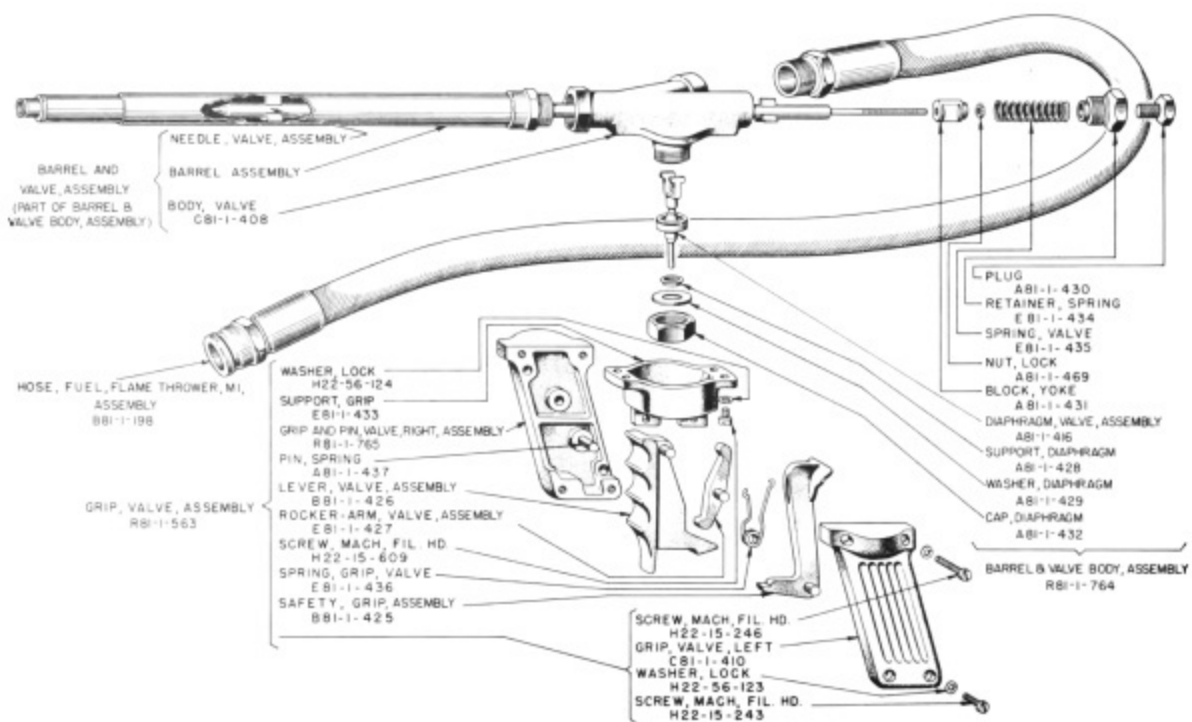
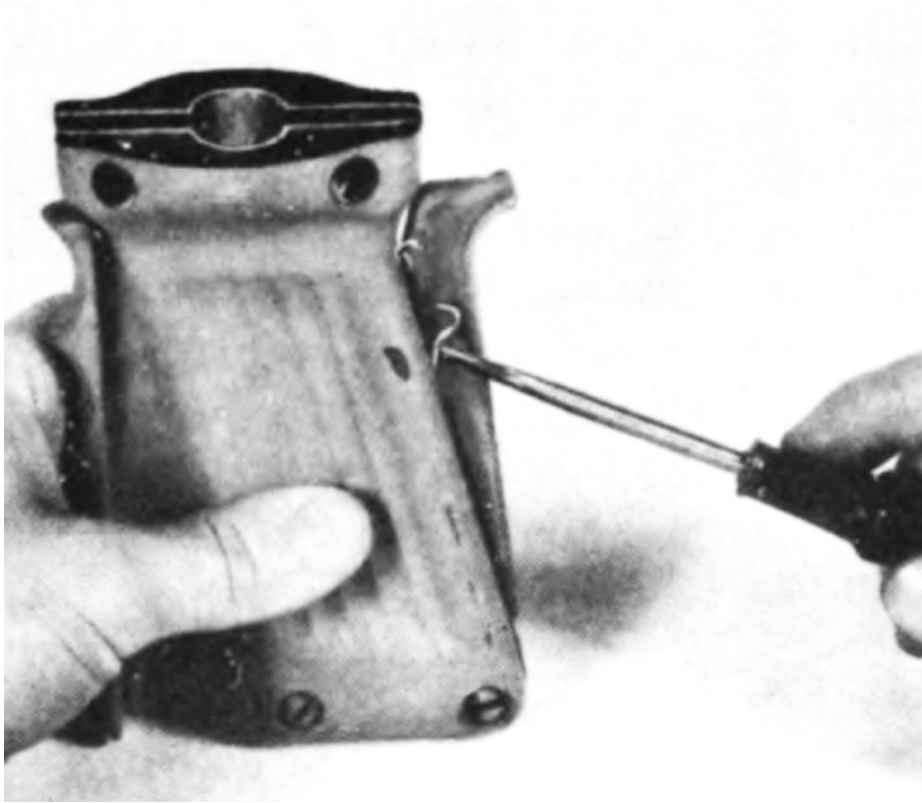

Fig 47. Fuel valve (disassembled) and fuel hose, showing nomenclature and Chemical Warfare Service stock numbers for requisitioning spare parts.
Fig 49. Using screw driver to push long end of valve-grip spring into groove in grip safety.
a. Description and functioning. (Fig 47) Hose, fuel, flame thrower, M1, assembly, provides a flexible connection between the fuel tanks and the gun.
(1) Hose. Made of synthetic rubber and reinforced with a cover of metal wire and cotton braid, the hose resists the action of gasoline and oil, and withstands a pressure of approximately 1,000 pounds per square inch. Its inside diameter is 7/8 inch; its outside diameter is approximately 1-1/4 inches.
(2) Nipples. The hose nipple, tank end, connects the hose to the tank coupling on the tank group. The hose nipple, gun end, is a threaded connector between the other end of the hose and the fuel-valve body.
(1) File the end surface, being careful to keep the surface at a right angle to the sides of the nipple.
(2) Couple hose nipple, tank end, to tank coupling. If coupling closes very easily, indicating washer is not being compressed, replace the washer and recouple. If coupling still closes too freely, the nipple has been filed too short, and the fuel-hose assembly should be replaced as a unit.
a. Description and functioning. (Fig 47) The valve grip is part of the fuel valve. It includes the controls and is held by the firer in his right hand to support the gun group. Parts of the valve grip are:
(1) Left and right valve grips. A pistol-type grip is formed by two aluminum housings designated as the left valve grip and the right valve grip. The two parts are held together by four screws and four lock washers.
(2) Grip support. This aluminum housing is mounted above the left and right valve grips and connected to them by two screws and lock washers.
(3) Valve lever. This control is made to fit the fingers and is mounted in front of and between the two parts of the valve grip. A pin at the top of the lever fits into holes in left and right valve grips and serves as a pivot, governing the movement of the lever. When the lever and the grip safety are compressed simultaneously by the operator, the valve is thereby opened and fuel is ejected from the gun.
(4) Grip safety. This control is grasped by the hand simultaneously with the valve lever. It is mounted back of and between left and right valve grips. A pin at the base of the safety fits into holes in the left and right valve grips and serves as a pivot in a manner similar to the pin on the valve lever. The fuel cannot be discharged unless both the valve lever and the grip safety are compressed simultaneously.
(5) Rocker arm. The rocker arm, a boat-shaped metal part, is mounted near its center on a pin. It is held in contact with the valve lever by means of a valve-grip spring and spring pin. At its top end, the rocker arm touches the yoke shaft of the valve-diaphragm assembly. When the valve lever and
(2) Put left valve grip in place and insert the two lower lock washers and screws. Tighten the two screws enough to hold parts in place and still leave space for moving long end of spring into the groove in grip safety. Push spring into groove with a screw driver. (Fig 49)
(3) With spring in place, fully tighten the two screws with screw driver.
(4) Place grip support in position, and insert the two upper lock washers and screws. Tighten screws, using screw driver.
(5) Attach valve grip to valve body, using the four lock washers and inserting the four screws through the grip support. Make sure that the yoke shaft of the valve-diaphragm assembly is in front of rocker arm.
a. Description and functioning. (Fig 47) This assembly is part of the fuel valve. It includes the barrel, valve body, and operating parts contained in the barrel and valve body. The assembly consists of:
(1) Valve body, an aluminum housing, located at the rear of the gun and mounted on the grip support by means of four screws and lock washers. The valve body has four large threaded openings. The lower opening leads into the valve grip. The side opening, which forms a Y with the main portion of the body, is connected to the fuel-hose assembly. The front opening is screwed on the barrel. The rear opening is closed by the spring retainer and plug.
(2) Valve-diaphragm assembly, which transmits and reverses the movement imparted to it by the rocker arm of the valve grip. (Par 74 a) It also serves as a seal, keeping fuel from entering the valve grip. The valve-diaphragm assembly includes: